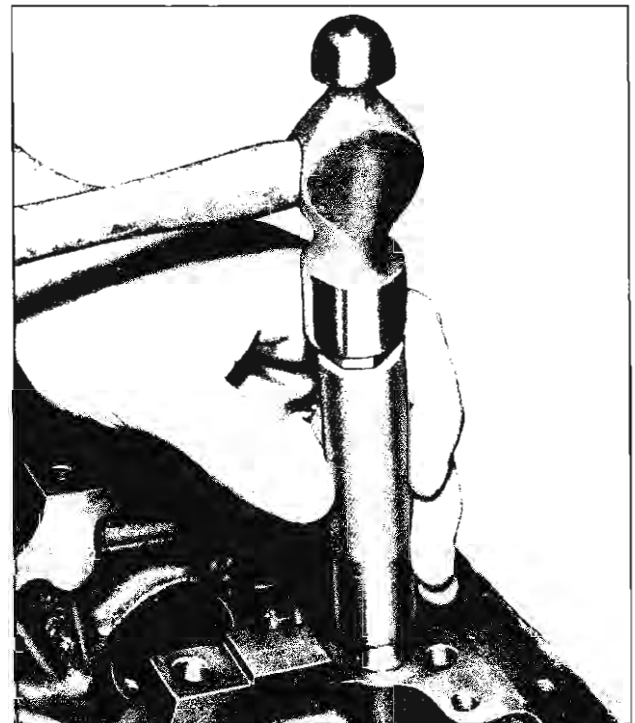

Fig. 69—Installing Distributor Lower Bushing
6. Position bushing and driver to block and drive the bushing in position (fig. 69), which is determined by tool bottoming against the block.